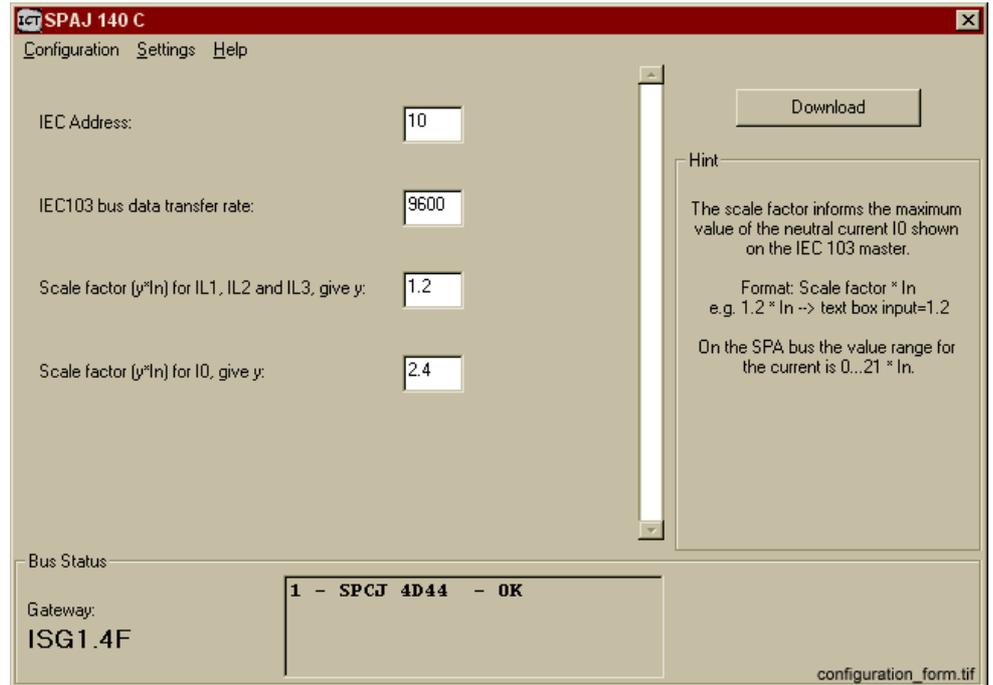

Fig. 2.5.-2 The configuration form
6. Test the gateway and connections from the menu **Settings > Update Bus Status**. In about 10 seconds the gateway version number and the SPA device found is shown in the **Bus Status** dialogue area of the configuration form, see figure 2.5.-2. (In the example, the SPA device SPCJ 4D44 is not the one required).